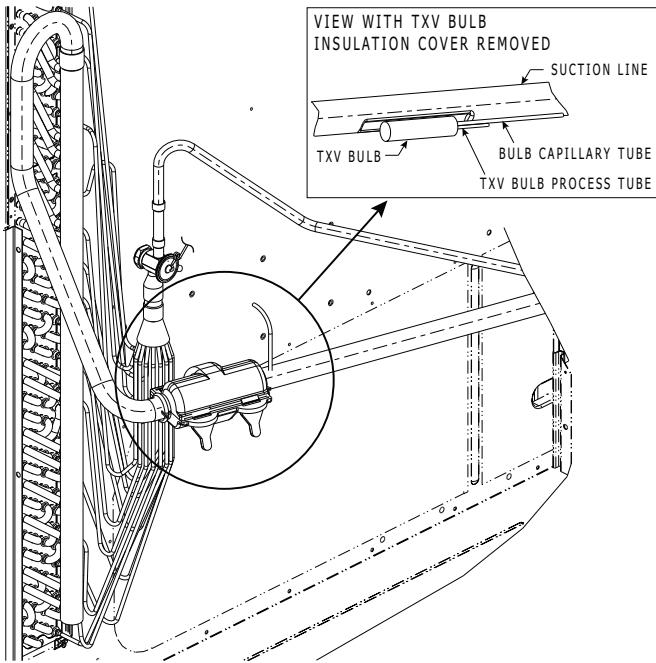

Fig. 28 – TXV Valve and Sensing Bulb Location
10. Attach TXV bulb in the same location where the original (in the sensing bulb indent) was when it was removed, using the supplied bulb clamps. See Fig. 28.